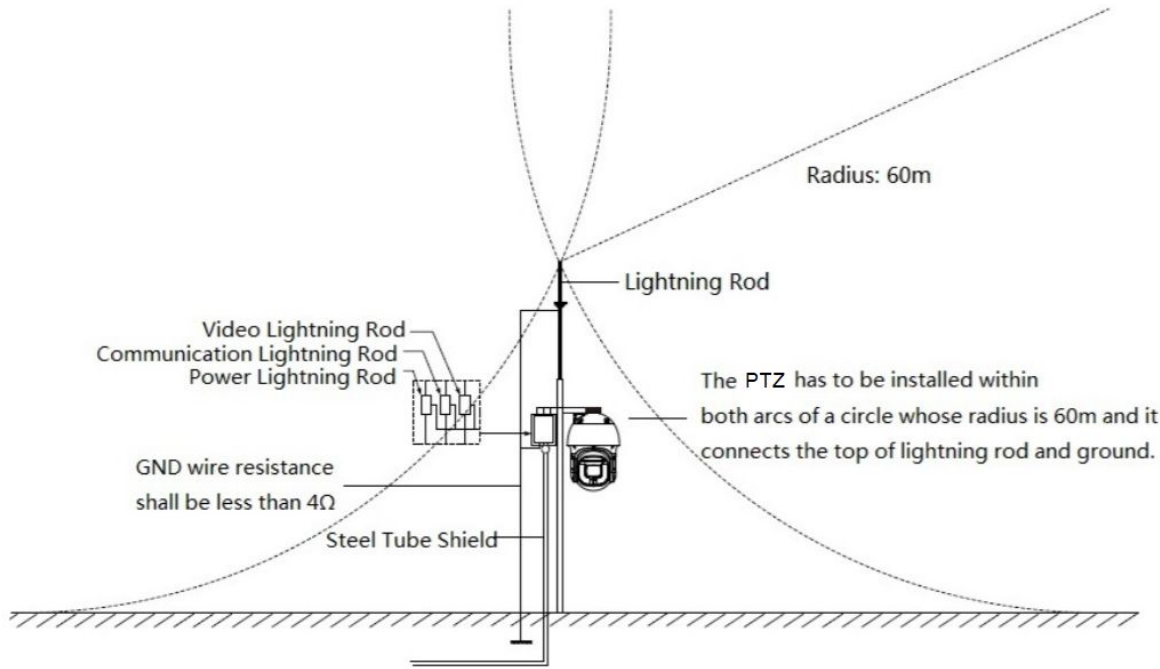

Figure 5-1
- Electrical bonding is recommended. The ground device should meet anti-jamming requirements and conform to your local electrical safety code. The ground device should not short circuit to N (neutral) line of high voltage power grid or mixed with other wires. When connecting the system to the ground alone, the grounding resistance should not be more than  $4\Omega$ , and the earth cable cross-sectional area should be no less than  $25\text{ mm}^2$ . See Figure 5-1.